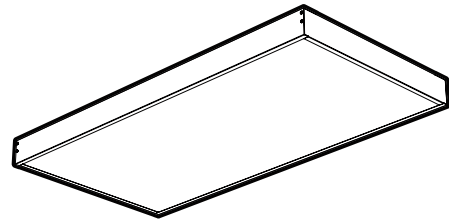

Figure 9
11. Replace the section and secure it with the supplied screws (Fig. 9).